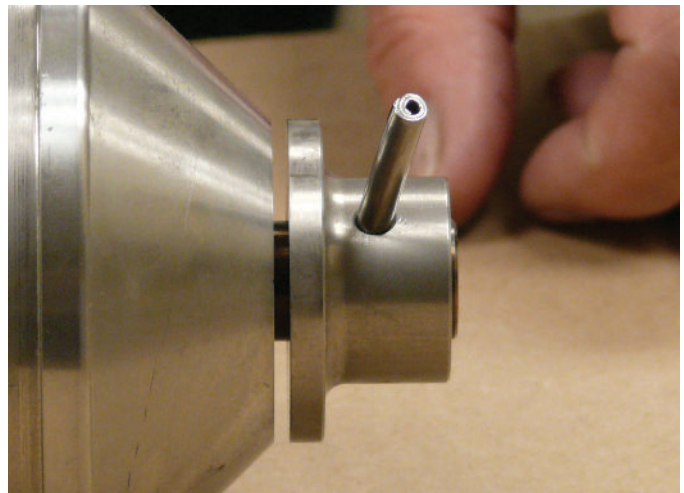

Figure 9-24 Press Spiro Pin
4. Press spiro pin (Item 5) flush with outer surface of lifting collar. (Figures 9-24 and 9-25).